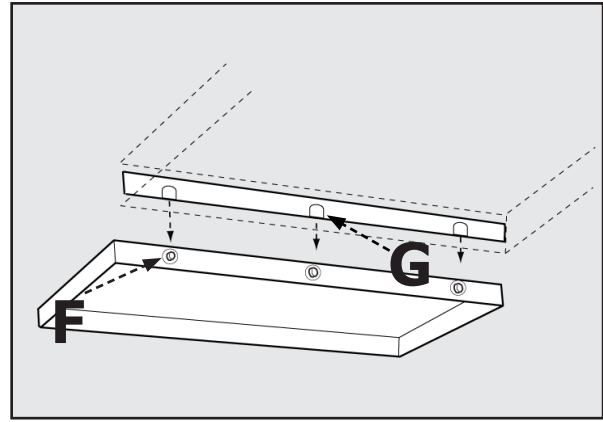
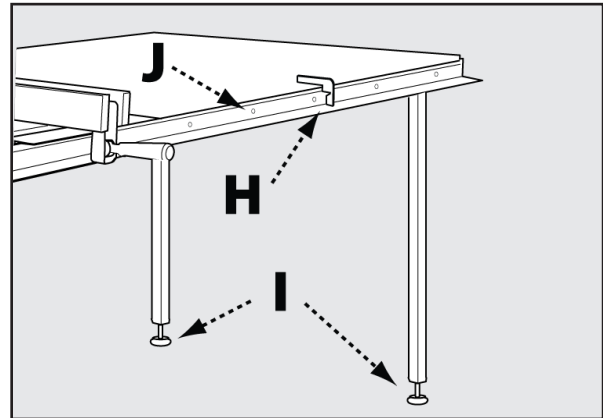

FIGURE 11
FIGURE 12
4. Feed the #10-32 X 1 1/4" screws with #10 flat washers (E) through the drilled holes from the outside, then assemble the nuts onto the screws and tighten.
5. Loosely assemble three 5/16-18 x 7/8" screws with spring washers, flat washers and nuts (F) into the three holes into the side of the extension wing as shown. (Fig. 11)
6. Carefully lower the slotted steel angle table bracket (G) down onto the screws on the extension wing. Tighten the screws after the wood table is leveled with the extension wing.
7. Using the rail alignment gauge (H) adjust the feet in the legs (I) so the top of the table is at the proper distance from the rail.
8. Drill 1/4 inch holes through the rail holes (J) into the wood table on the front and back rails. (Fig. 12)